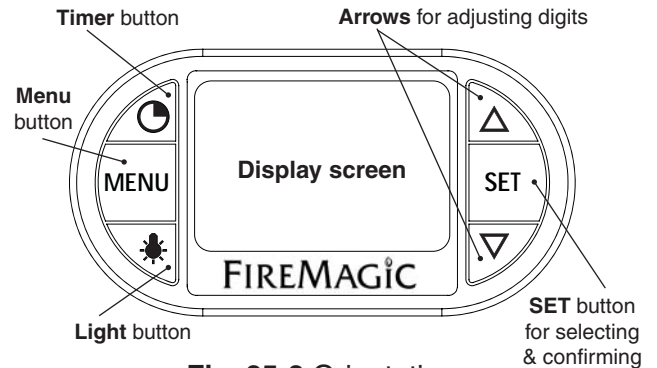

Fig. 25-2 Orientation
Read the following sections completely regarding thermometer operation. Refer to Fig. 25-2 for thermometer orientation and button locations.
1. Press the light button to turn both the interior lights and knob backlights ON (see Fig. 25-2). The interior lights will remain ON when the hood is closed (for use of the Magic View window).